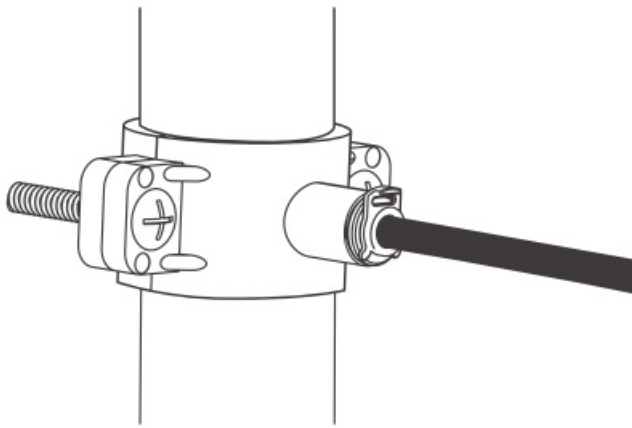

Figure 8
4. Fix the drain saddle with screws and install the lock clip on the fitting to secure the connection (**Figure 8**);